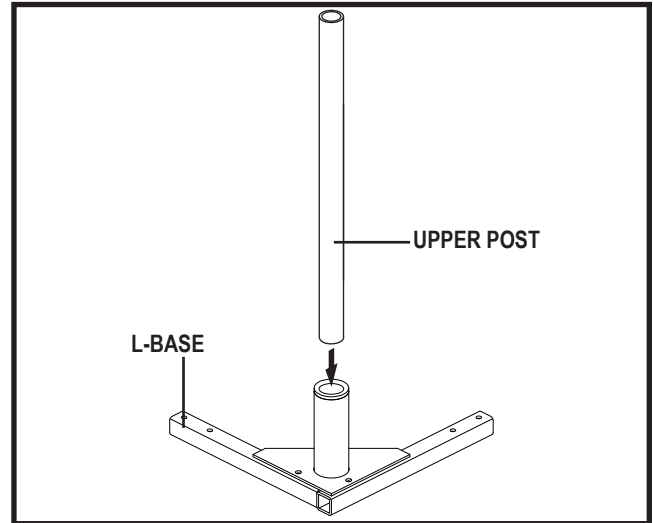

Figure 4. Upper Post Installation
1. Insert the upper post into the L-base. **See figure 4.**